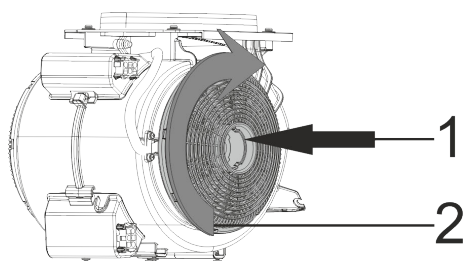

Fig. 10: CARBON FILTER
- 1-Place the carbon filter in its housing (Fig. 10).
- 2-Rotating the carbon filter clockwise, ensure that it is completely fit (Fig. 10).